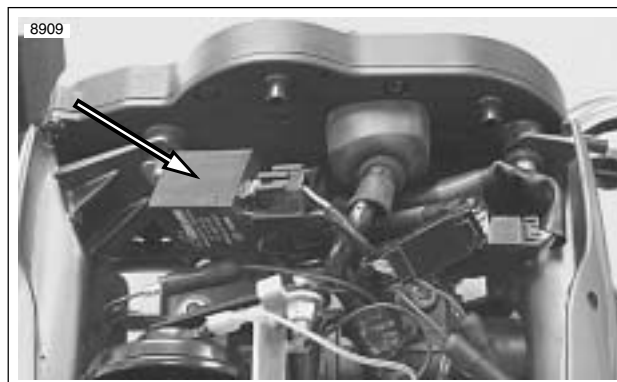

Figure 7-54. Turn Signal Flasher
3. See Figure 7-54. Detach 3-place connector [30] from flasher body.
1. See Figure 7-54. Attach 3-place connector [30] to flasher.